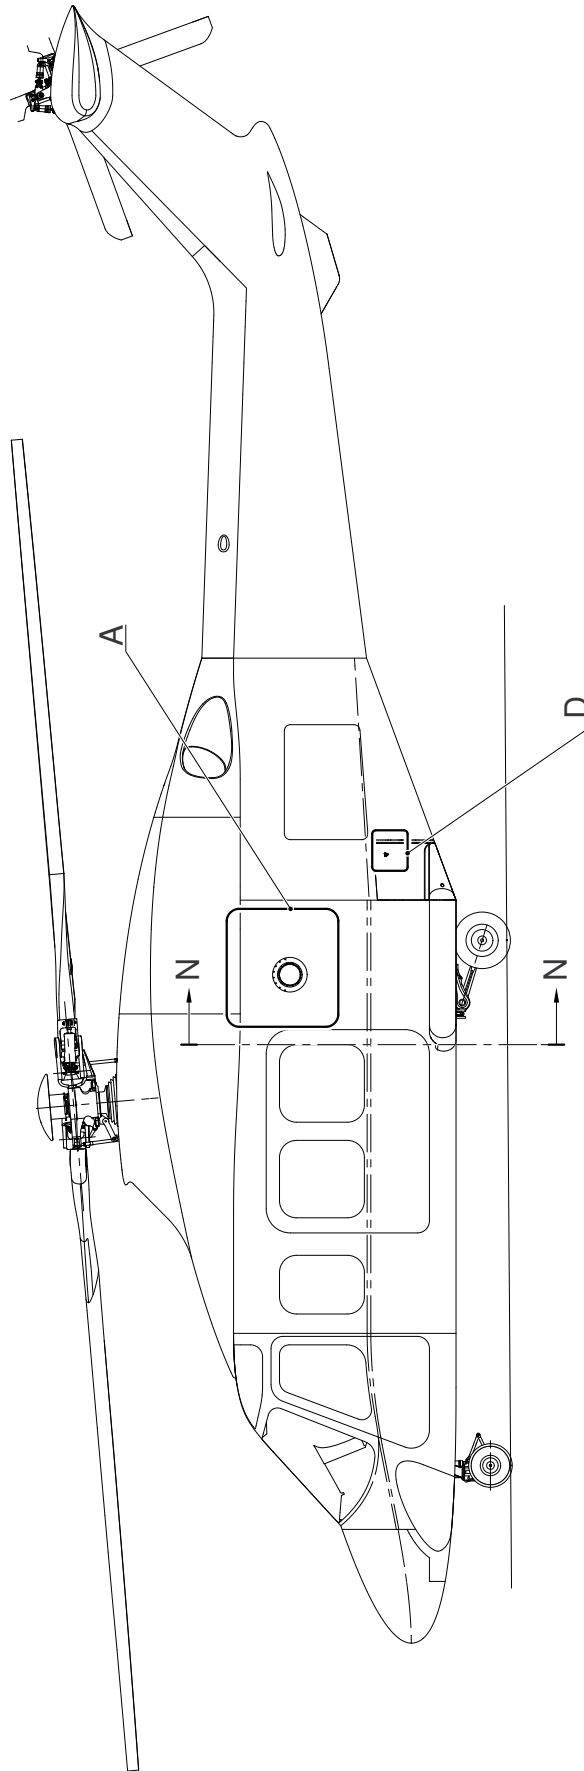

Figure 9
3. In accordance with AMP DM 39-A-06-41-00-00A-010A-A and with reference to Figures 9 thru 15, remove all external panels, internal panels and internal liners as required to gain access to the area affected by the installation and perform the structural provision for CCRR ISO45 P/N 3G5310A17011 as described in the following procedure: